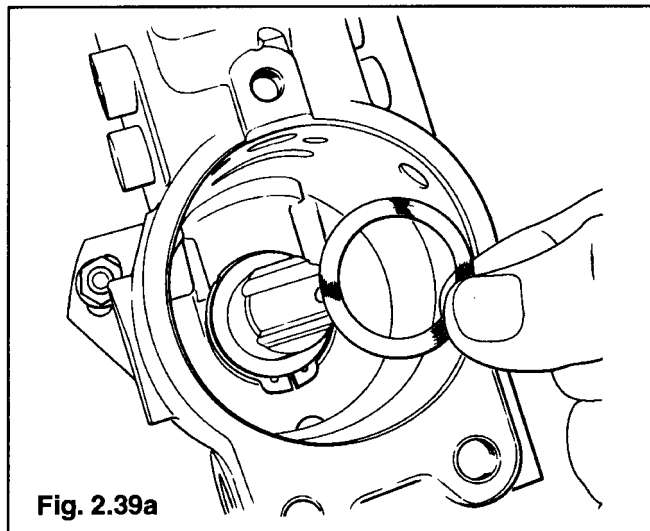

Fig. 2.39a
STEP 39 Remove drive shaft thrust spring and thrust washer as shown below in Figures 2.39a and 2.39b.